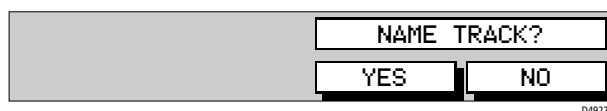

Figure 3-44: Name Track Soft Keys
3. Press **SAVE TRACK**. The Name Track soft keys are displayed as shown in *Figure 3-44*.